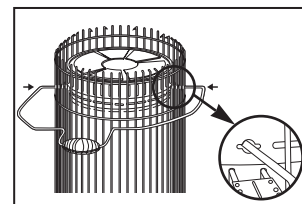

Fig.6
D) INSTALLING CARRYING HANDLE: (Fig.6)